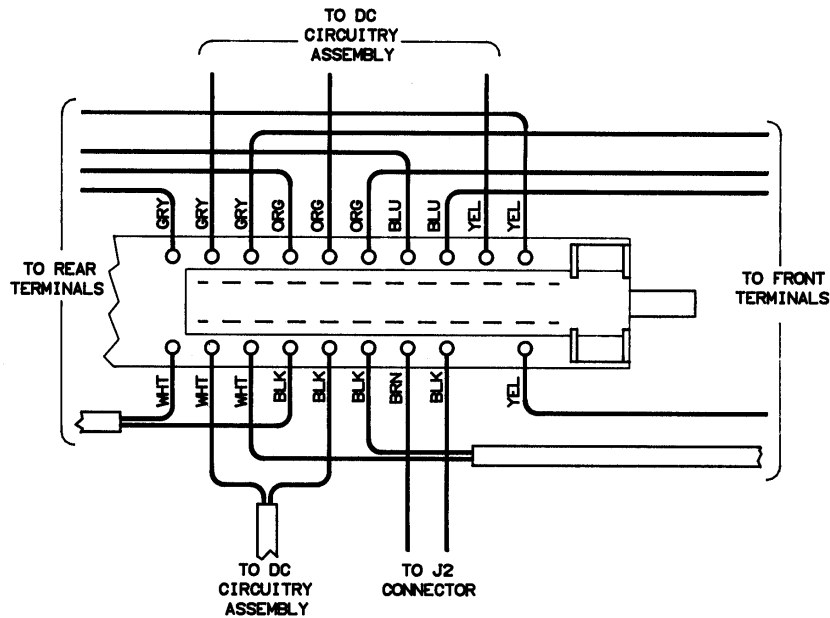

Figure 3-22 Wire/Cable locations on front/rear terminals switch
- 5 On the Front/Rear Terminals switch assembly, note for future reference the location of the wires connected to the assembly. These locations are also shown in Figure 3-22. Then unplug and lay aside all wires from the assembly.
- 1 Refer to Figure 3-22. Plug in all wires to the Front/Rear Terminals switch assembly. Use the wire locations noted in the previous procedure.